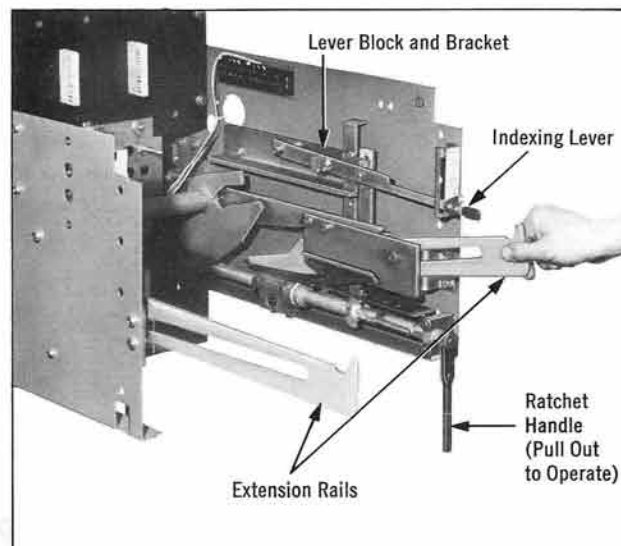

Fig. 6 Draw-out Mechanism Components.
After mounting, refer to Figure 6, and remove the tapes which hold the extension rails in place. Lift slightly on both rails to slide them all the way out. Make sure the ratchet handle on the right is pointing straight down.
- A. Extension rails pulled out to their full extension. See Figure 6.
Refer to Figures 6 and 17.